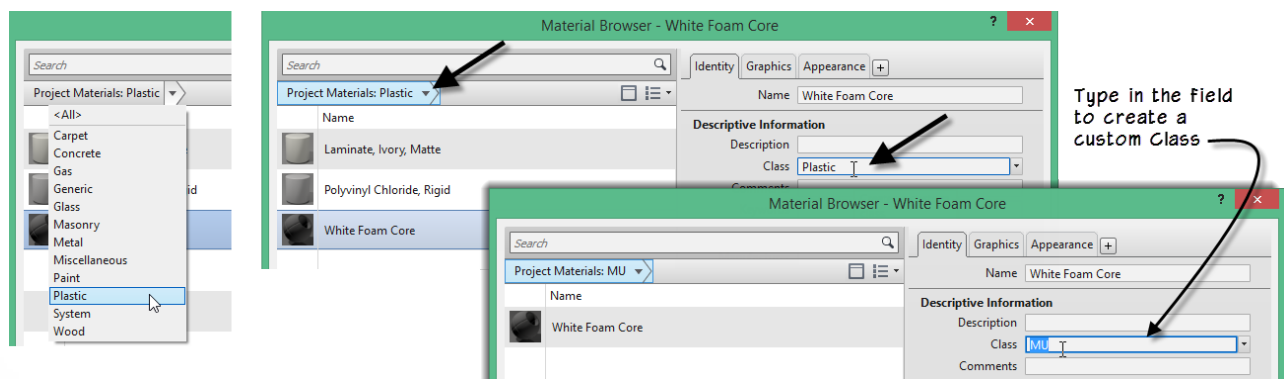

Figure 5—The Class setting lets you group and filter your list of materials
- ⇒ In the Class field, type: MU. Then choose this as the filter on the left (see Figure 5).